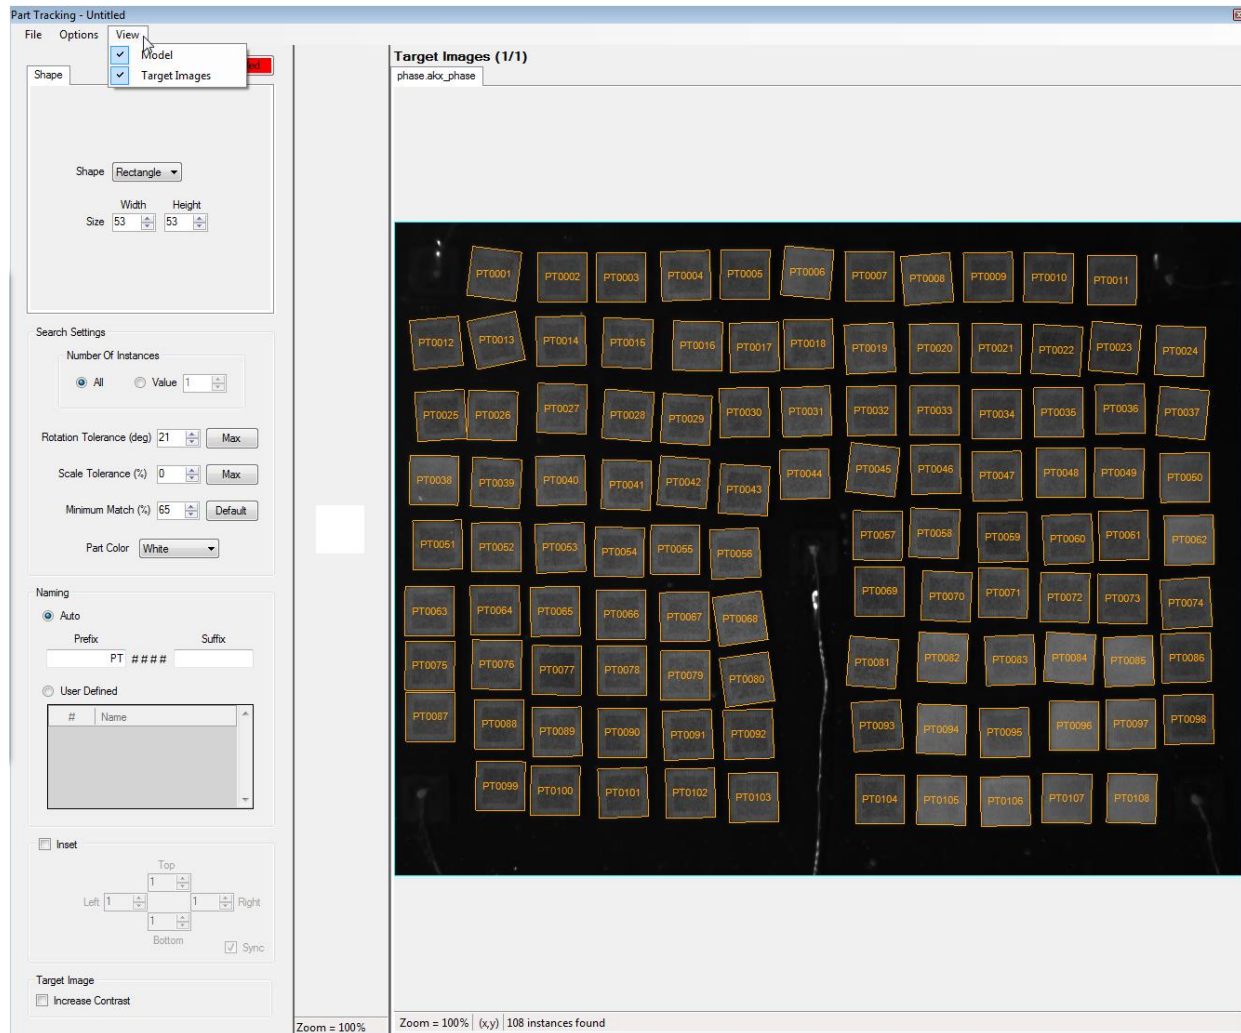

Figure 2.42 Part Tracking window with Target Image
- **View** – Allows the user to show or hide the Model and Target Images display. See the result with both being shown in **Figure 2.42**.